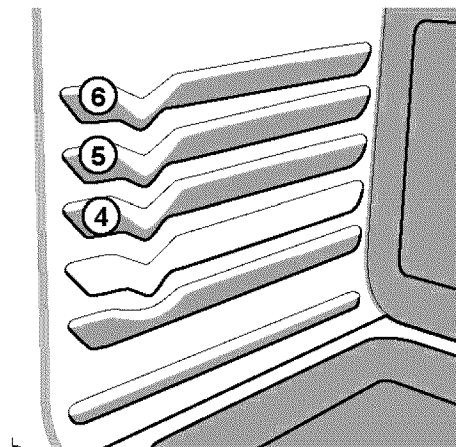

Fig. 2
2. Arrange the interior oven rack- p. 23 Figs. 2 &amp; 3- for position recommendations. Be sure to place the prepared food and pan directly under broil burner. Close the oven door.